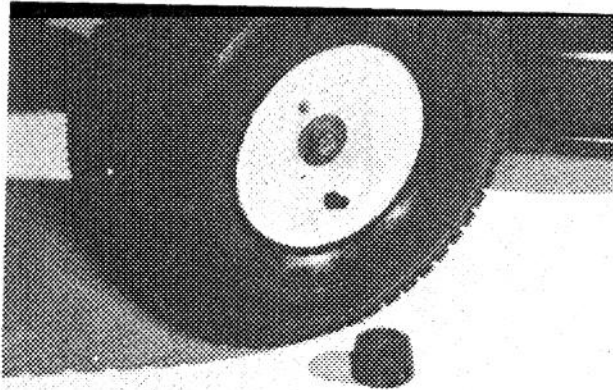

Figure 44
4. Remove the cotter pin and flat washer (Fig. 44) and remove the wheel from the axle.